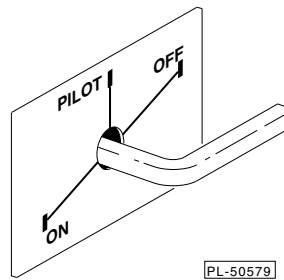

Fig. 5
3. Open access door; push the gas valve extension arm in and turn to OFF (Fig. 5). Wait 5 minutes for the unburned gas to vent.
4. Push the gas valve extension arm in and turn to PILOT (Fig. 5).